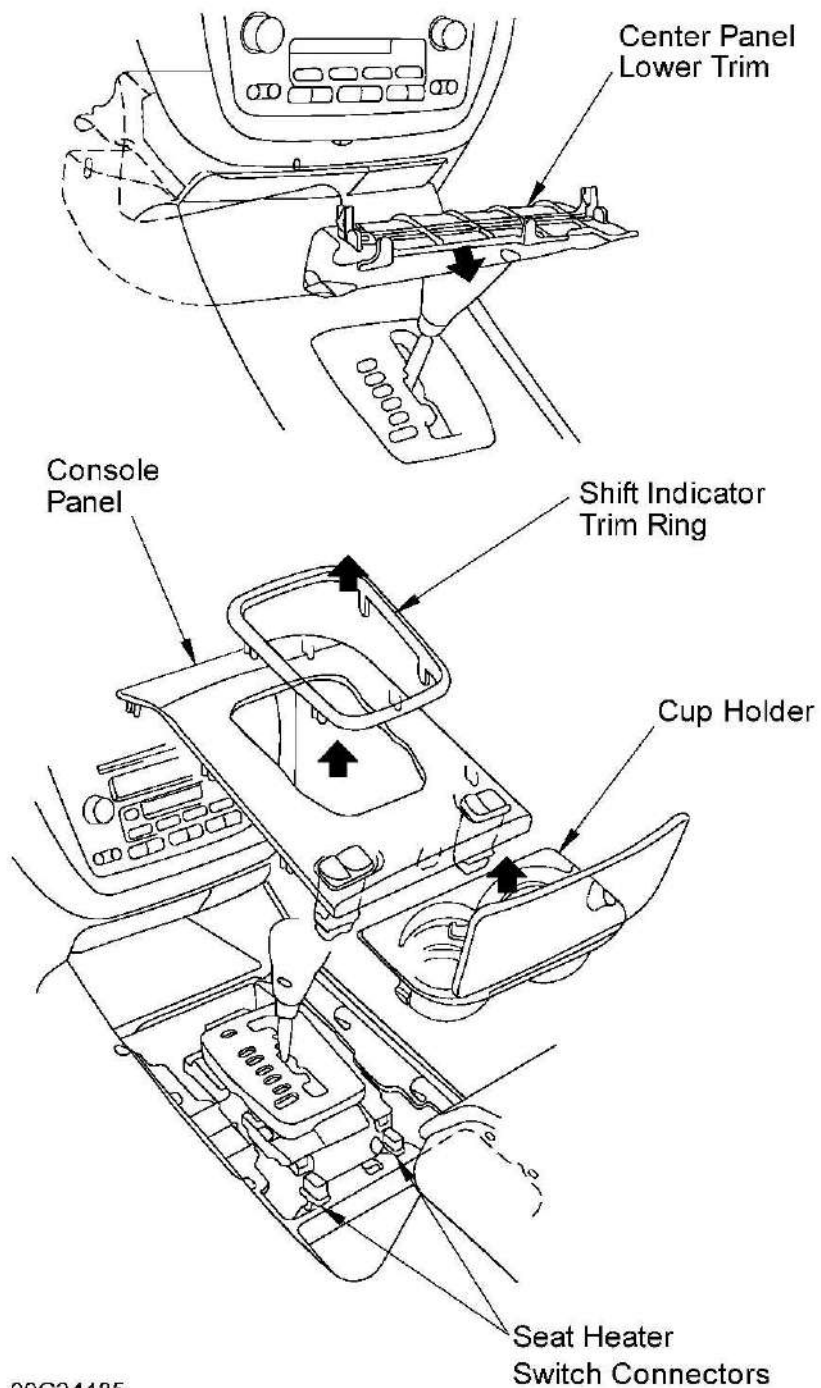
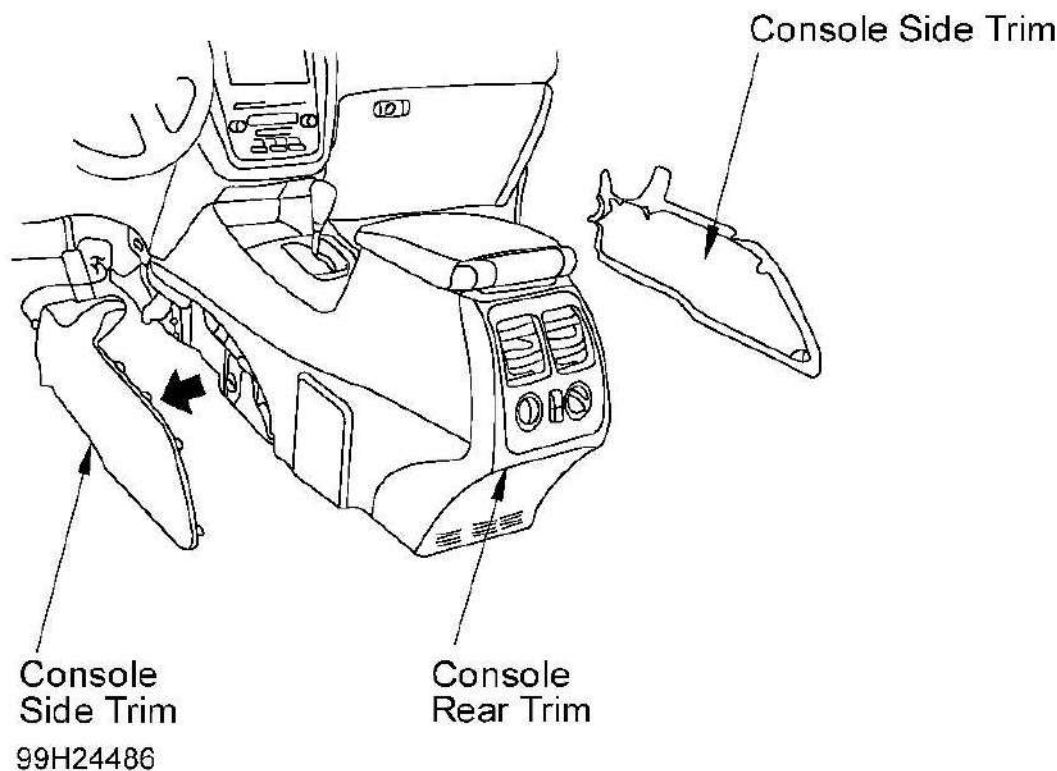

Fig. 17: Identifying Center Console (1 Of 2)
Fig. 18: Identifying Center Console (2 Of 2)
2. Detach clips by hand and remove center panel lower trim. See **Fig. 17** . Pull up on cup holder and remove. Remove shift indicator trim ring. Gently detach clips and remove console panel. Disconnect seat heater switches. Detach clips and release hooks, then remove left and right console side trims. See **Fig. 18** . Gently pull out console rear trim to detach clips and release hooks.